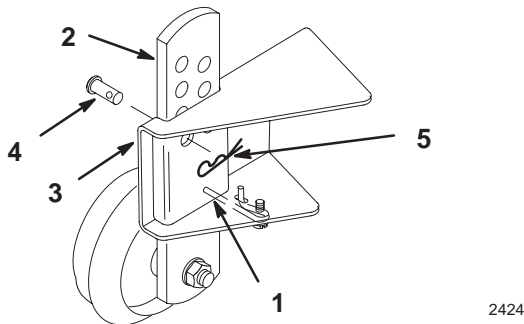

Figure 3
5. Deflect the anti-rattle spring, slide the adjusting plate of the gage wheel into the mower gage wheel bracket, and secure it with the pin and hairpin cotter (Fig. 3).